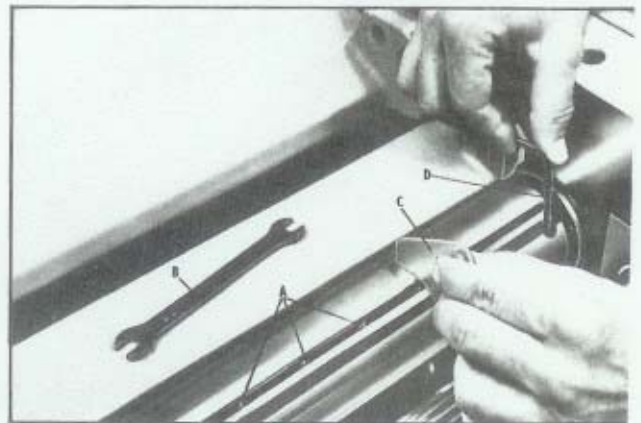

Fig. 24.
2. Slightly loosen all of the knife screw (A) Fig. 24, by turning the screws clockwise using the special wrench (B).
3. Place the knife gage (C) over the knife as shown in Fig. 24 and turn the lifter screw with wrench (D) until the knife touches the gage.
4. Check all three knives at each end in the same manner and when you are certain the knives are adjusted properly, lock them in place by turning the knife screws (A) Fig. 24, counterclockwise to tighten the knives.